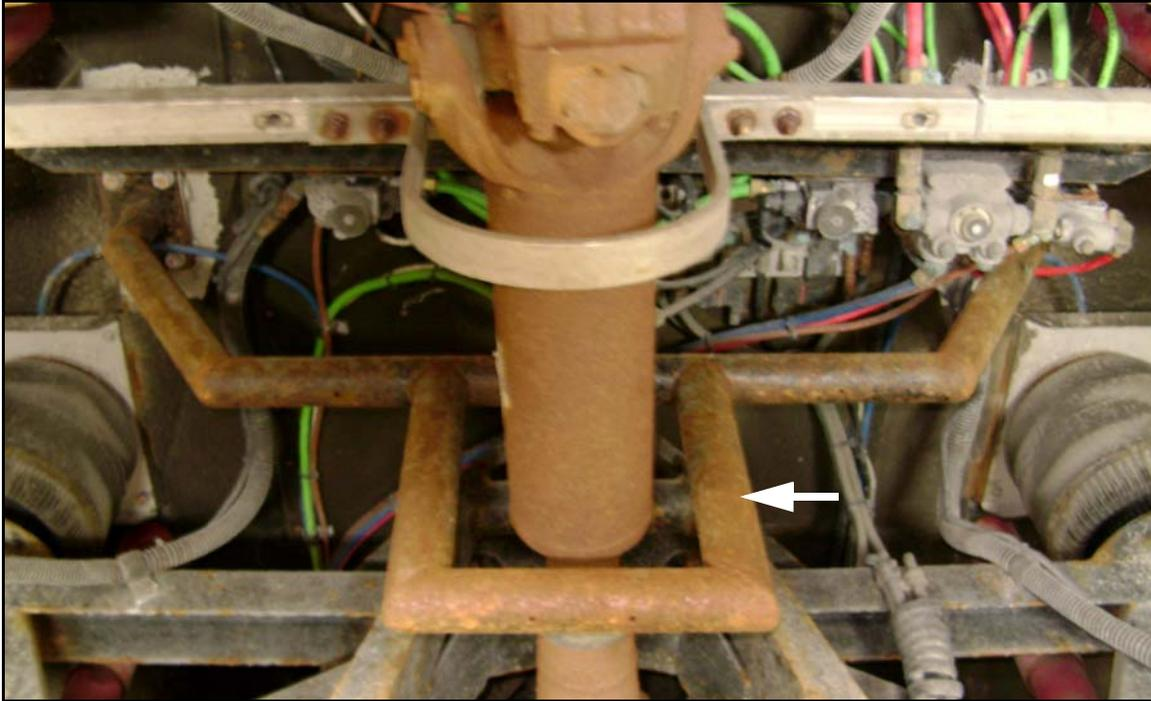
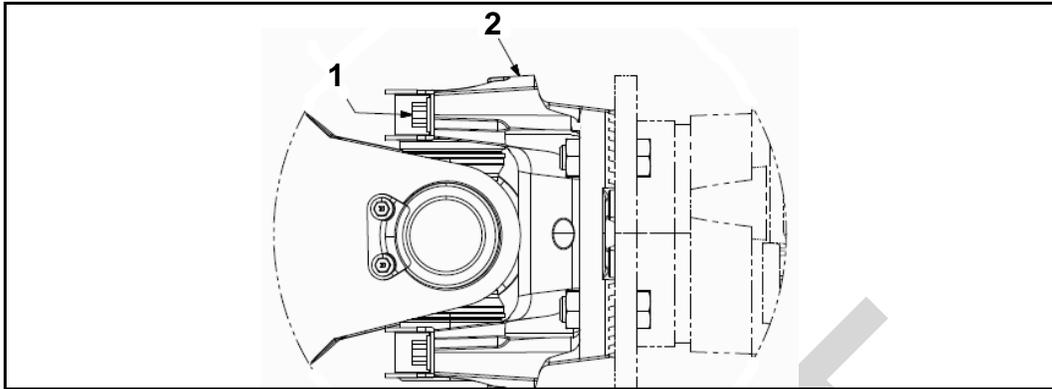

Figure 9. Driveshaft hoop assembly installation.
Figure 10. Yoke flange connection.
20. Orient the driveshaft per the labeling earlier in this procedure. Insert the driveshaft through the lower opening of the hoop assembly as shown in Figure 9. Using two (2) strap / bolt kits, p/n 14-01-1028, attach the driveshaft to the yoke flange on the transmission (refer to Figure 10). Torque to 115-125 ft-lbs.
21. Using two (2) strap / bolt kits, p/n 14-01-1028, attach the opposite end of the driveshaft to the yoke flange on the drive axle (refer to Figure 10). Torque to 115-125 ft-lbs.